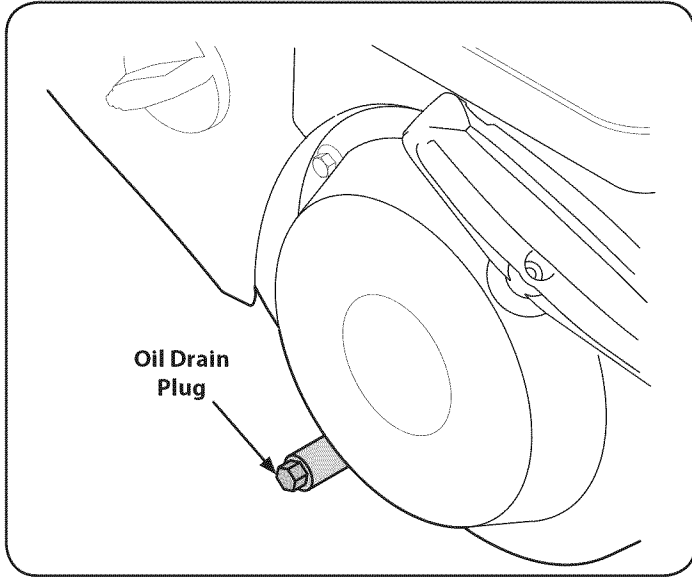

Figure 17
3. Remove oil drain plug. See Figure 17.